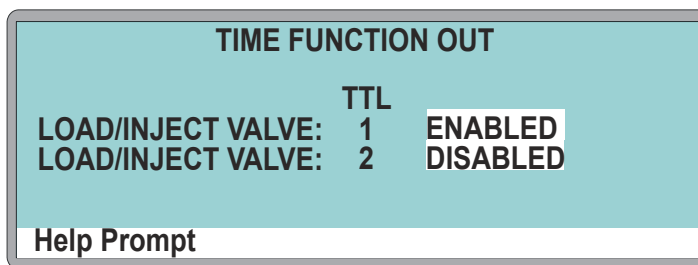

Figure 62. AS50 Time Function Out Screen
1. On the AS50 front panel, press **Menu** and **0** to go to the **TIME FUNCTION OUT** screen (see Figure 62). In the **LOAD/INJECT VALVE:** **TTL 1** field, select **ENABLED**.